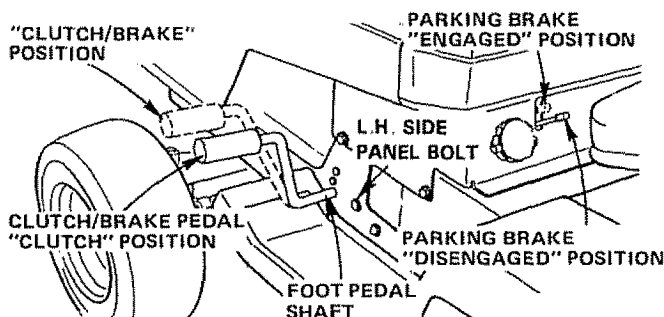
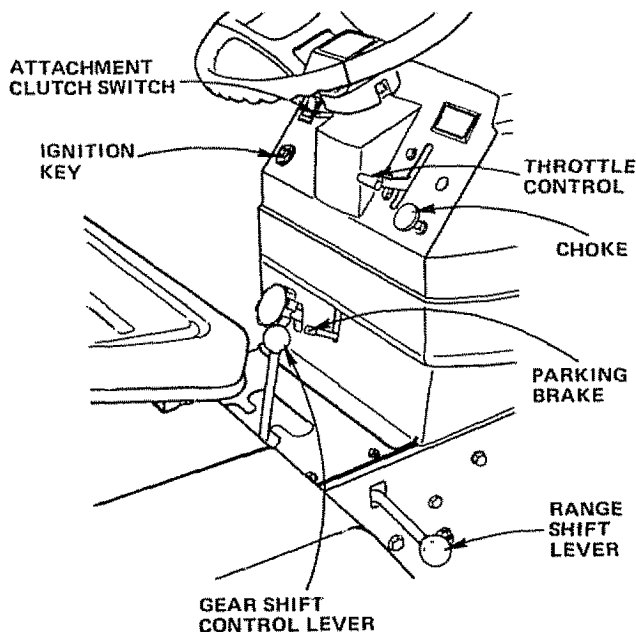

FIGURE 8
FIGURE 9
1. Place Attachment Clutch Switch in "DISENGAGED" position (Fig. 9).
2. Push Clutch-Brake Pedal fully into brake position (Fig. 8).
3. Place Gear Shift Control Lever in "N" neutral, start position; and Range Shift Lever in "N" neutral position (Fig. 9).
4. Pull Choke out (Fig. 9).
5. Move Throttle Control to middle position (Fig. 9).
6. Turn Ignition Key to "START" position until Engine starts (Fig. 9). NOTE: DO NOT RUN STARTER CONTINUOUSLY FOR MORE THAN FIFTEEN SECONDS PER MINUTE. If engine does not start after several attempts, move Throttle Control to "F" (fast) position, wait a few minutes and try again.
2. Push Clutch-Brake Pedal down firmly (Fig. 8). Move Gear Shift Control Lever to desired gear and Range Shift Lever to "LO" (Low) position (Fig. 9).
For pushing or towing your tractor, place Gear Shift Control Lever and Range Shift Lever to "N" neutral position (Fig. 9). NOTE: DO NOT TOW YOUR TRACTOR FASTER THAN SIX MILES PER HOUR.
3. Connect the other end of the cable to the L.H. Side Panel Bolt (Fig. 8). **NOTE: KEEP AWAY FROM GAS TANK AND BATTERY.**
- a. L.H. Side Panel Bolt (Fig. 8).